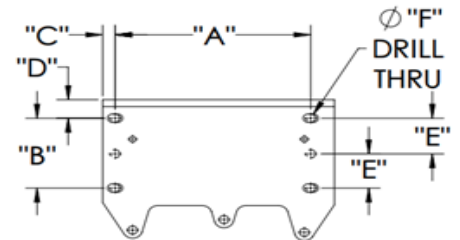

**Figure 2 - Attach handle**
- Attach two front cover lifting handles to the front cover on small guards. On larger belt guards equipped with an inspection cover, attach one handle to the inspection cover as shown in Figure 2. Insert and tighten the two mounting screws on each lifting handle. If equipped with an inspection cover, attach the inspection cover to the front cover and insert and tighten the six screws. See Table 1 for tightening torque of the bolts. Table 1 tightening torque applies to all mounting bolts on the belt guard.